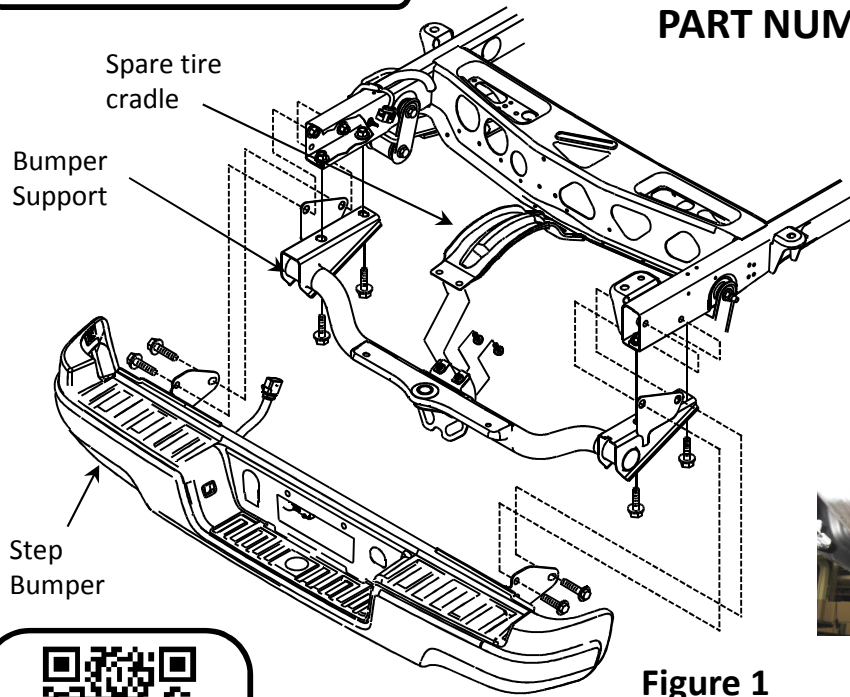
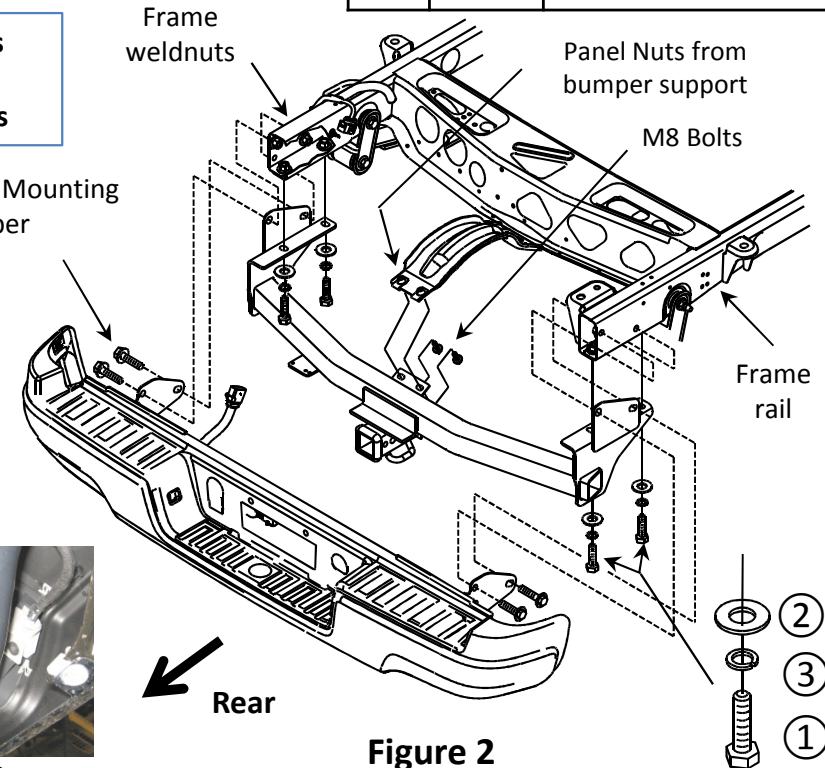

Figure 1
Figure 2
2. Remove vehicle step bumper by removing two (2) bolts on each side of bumper brackets. See figure 1.
3. Remove vehicle bumper support by removing the four (4) bolts from bottom of frame and the (2) M8 bolts at spare tire cradle (keep M8 bolts to re-install).
4. Raise hitch into position and install the provided M14 hex bolts, lock washers, and flat washers into bottom four (4) existing weldnuts in frame. See figure 2.
5. Re-install spare tire cradle re-using original fasteners. Tighten M8 bolts to 20 Lb.-Ft. (28 N*M). See figure 2.
6. Re-install the step bumper using the original four (4) side fasteners. NOTE: Be sure to align the plastic tube for spare tire mechanism.
9. Return vehicle bumper support and bottom four (4) factory bolts to owner.